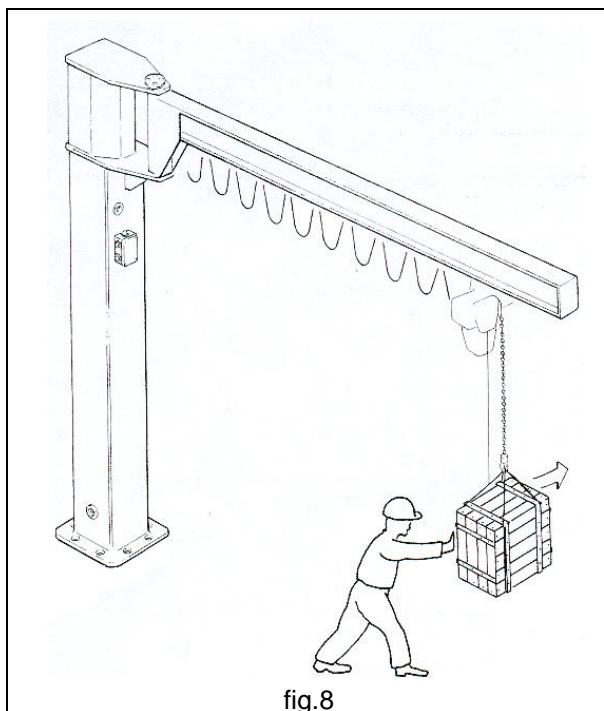

fig.8
4. **Slewing rotation** of the jib crane is activated, both clockwise and counter-clockwise, **manually by pushing the load** (fig.8) or **electrically by the push-button pendant**.